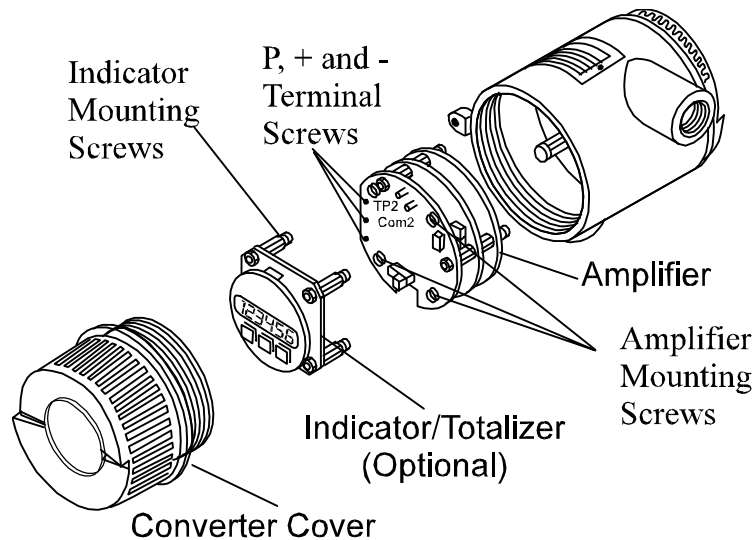

Figure 4.2.1: Removing and reinstalling the indicator
- 5) Completely loosen the three amplifier mounting screws and remove the amplifier as shown in figure 4.2.1.